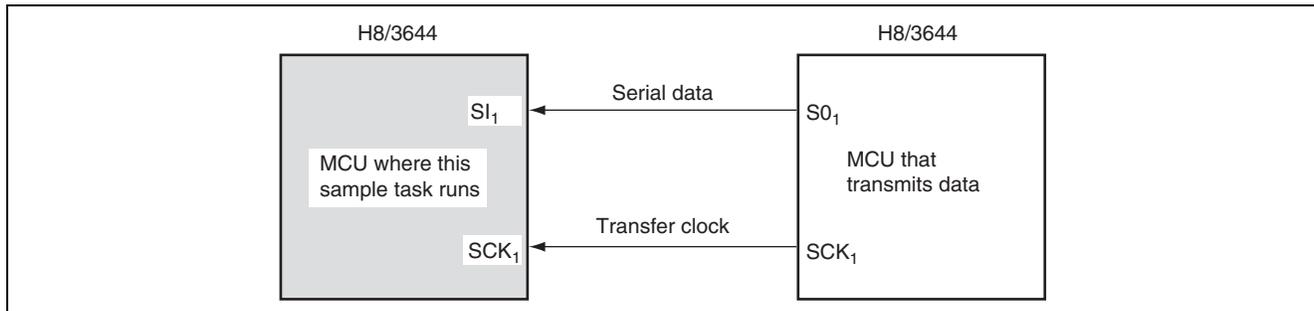

Figure 1.1 Serial Data Reception in Synchronous Mode
1. As shown in figure 1.1, four bytes of 8-bit data are received using the serial data transfer function in synchronous mode.